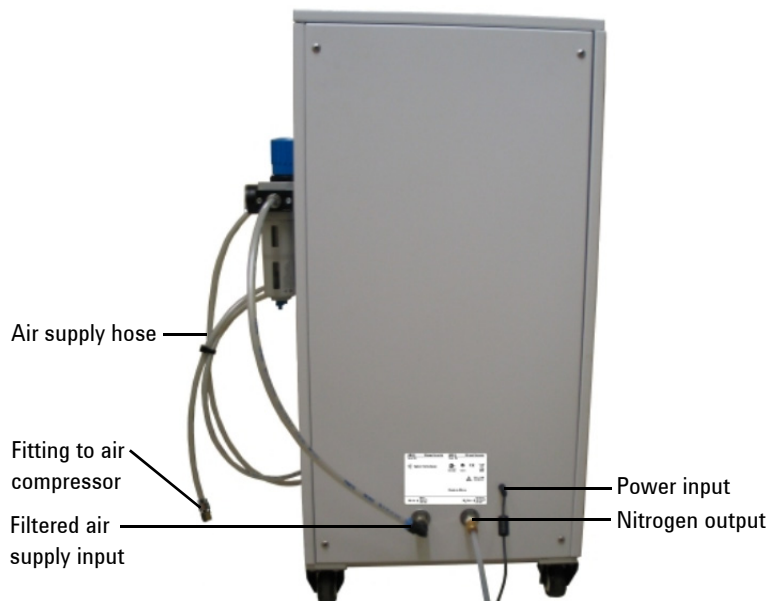
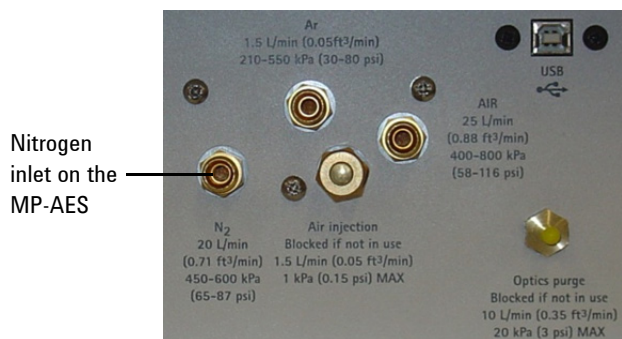
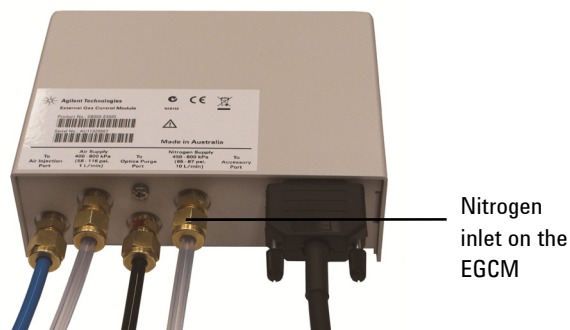

Figure 3. Nitrogen generator tubing and power connections
Figure 4. Nitrogen inlet on the bottom right side of the MP-AES instrument
Figure 5. Nitrogen inlet on the EGCM
- 2 Connect one end of the nitrogen gas supply hose to the nitrogen output on the rear of the nitrogen generator (see Figure 3) and the other end to the nitrogen inlet on the MP-AES instrument or EGCM (see Figure 4 and Figure 5).
- 1 Plug the small DC output connector from the power supply to the receptacle on the rear of the nitrogen generator. See Figure 3.